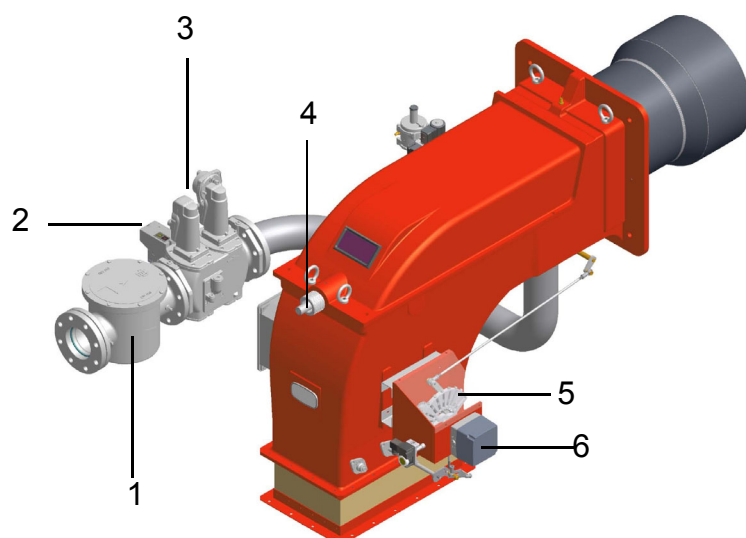

Fig. 4
**ATTENTION:** once the gas train is mounted according to the diagram on Fig. 4, the gas proving test must be performed, according to the procedure set by the laws in force.